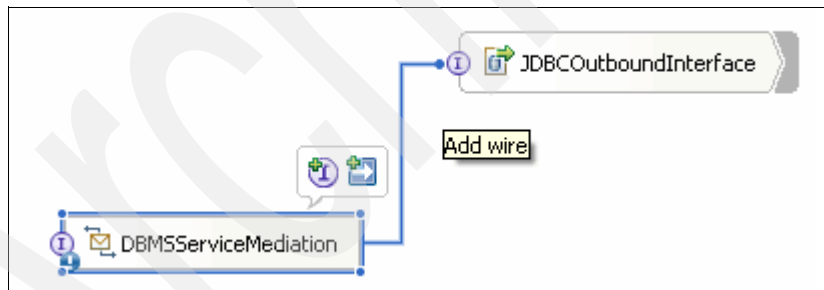

Figure 5-45 Wire the components
4. Wire the DBMSServiceMediation component to the JDBCOutboundInterface as shown in Figure 5-45.